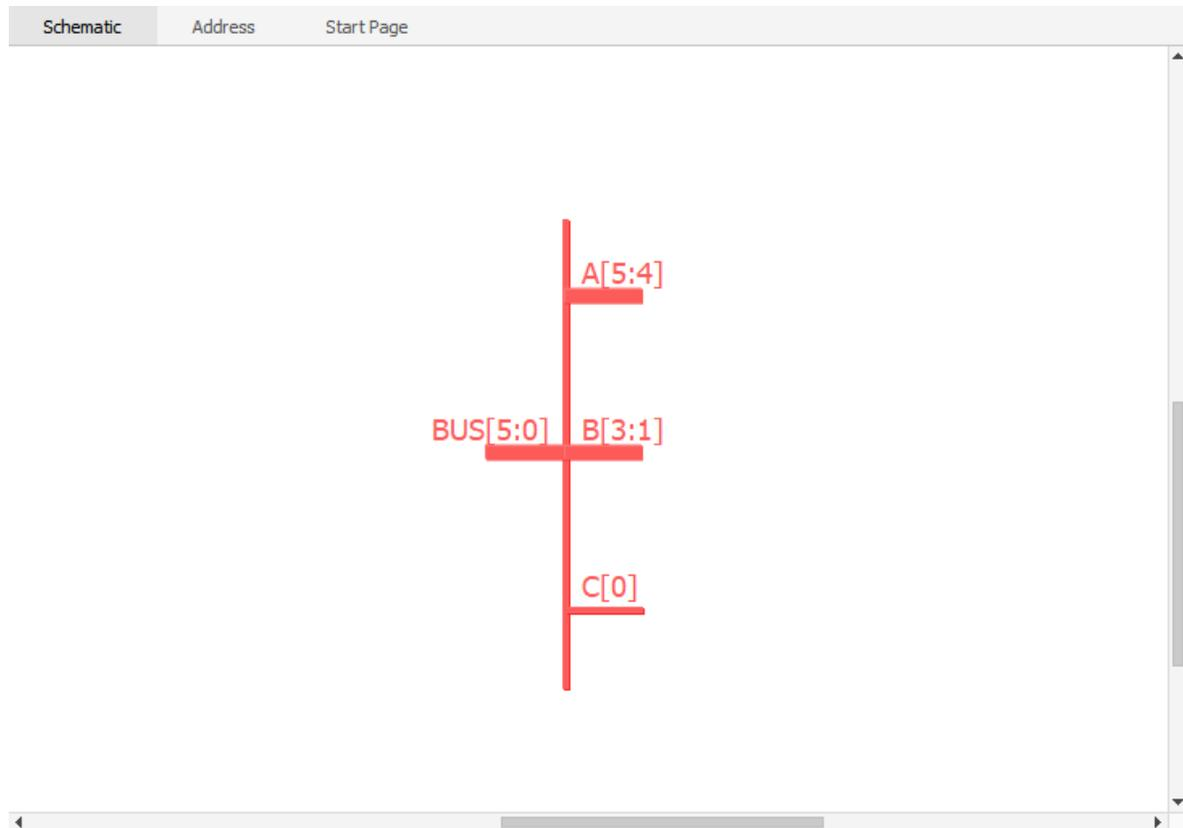

Figure 2.30. Schematic View Shows Split Module
- c. Click **OK**. The schematic block for the split module in red appears in the Schematic view (Figure 2.30).